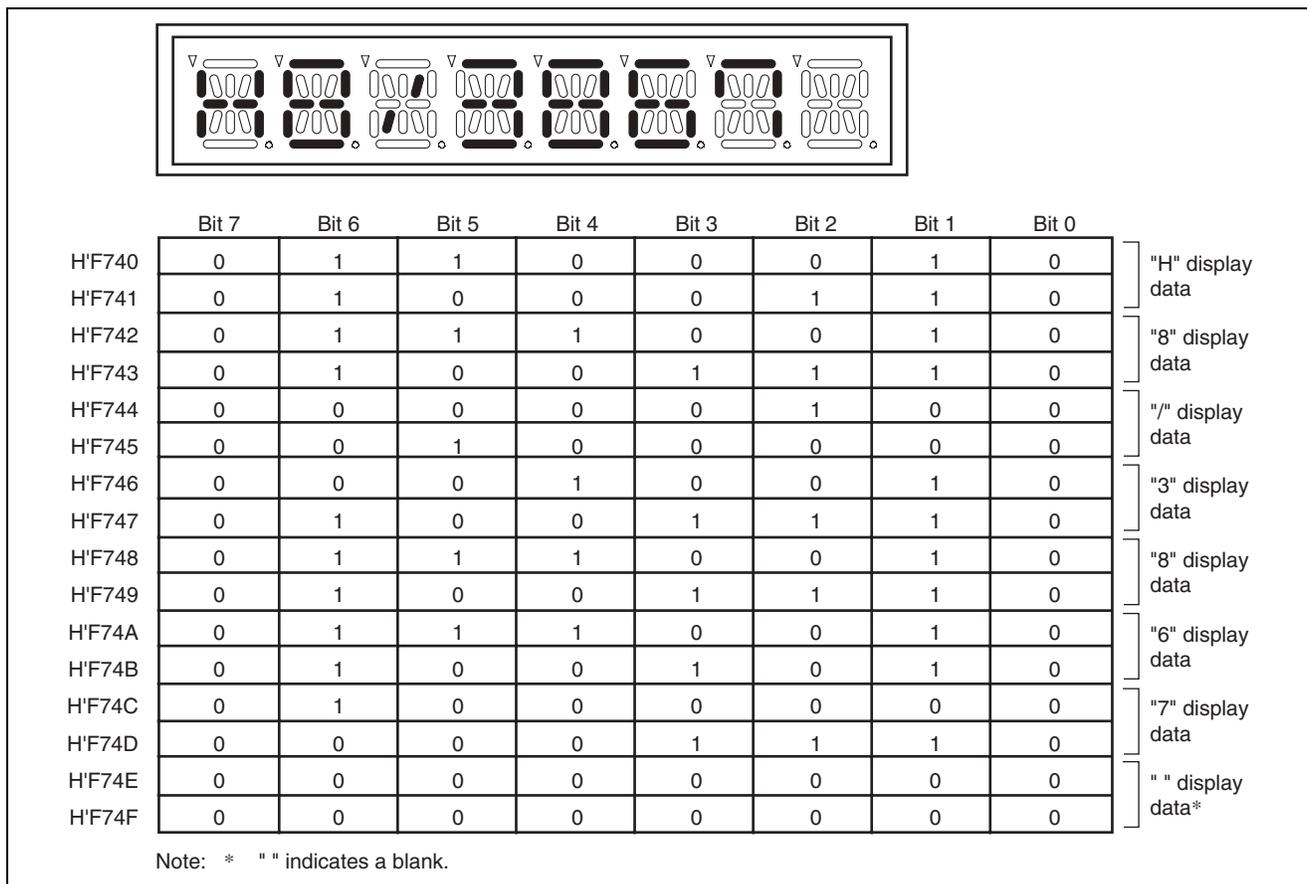

Figure 2.4 Relationship between the LCD Display and the LCD RAM Settings
6. Figure 2.4 shows the relationship between the 8-digit 16-segment LCD display and LCD RAM setting values used in this sample task. "H8/3867" is displayed on the LCD by setting the LCD RAM.